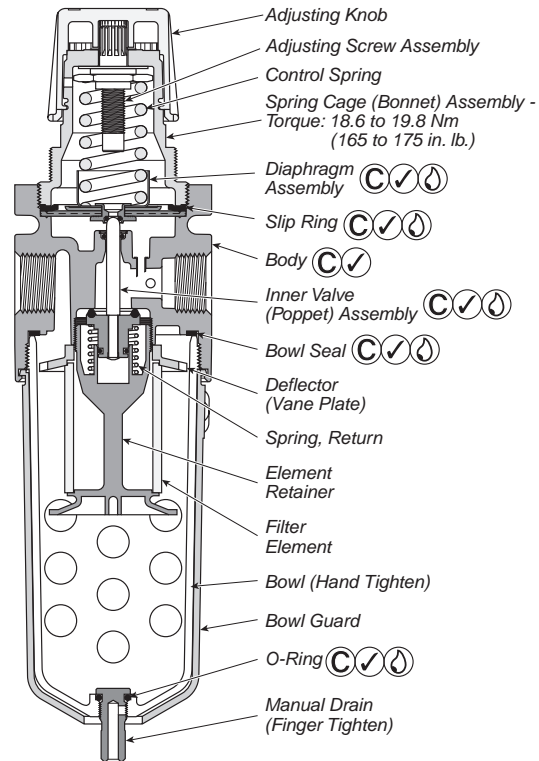

Figure 1
Servicing Filter Element - (Refer to Figure 1)
Servicing Regulator - (Refer to Figure 1)
- Install Diaphragm Assembly and Slip Ring into Body Assembly. Assemble Bonnet Assembly onto Body and tighten per Figure 1.